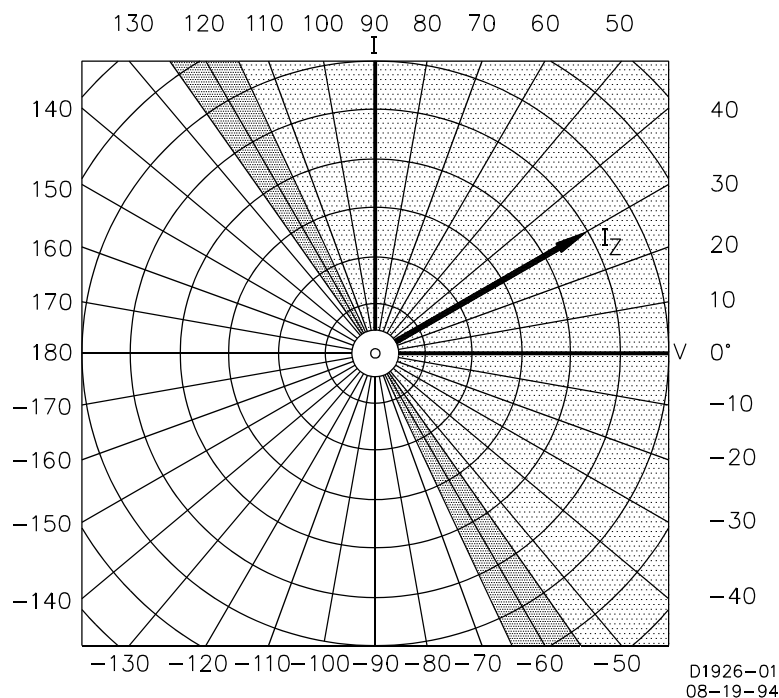

Figure 5-10.  $\alpha = 60^\circ$
Step 9. Vary the phase angle of the input current through  $360^\circ$  and record the phase angles within which the INHIBIT LED is OFF. When shown on a polar plot, the result should be a straight line (through the origin) from a  $-60^\circ$  to  $+120^\circ \pm 5^\circ$ . This plot defines the trip region as shown in Figure 5-10.
To set the direction (characteristic angle) for the relay, the boundaries of the tripping region need to be determined. If, for example, the line impedance angle is known to be 60°, the boundary should be the line normal to the line impedance. This line (through the origin) should extend from +120° to -60° as shown in Figure 5-10.